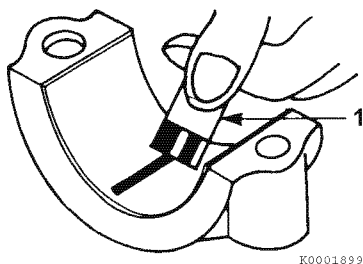

Figure 6-109
- 5- Compare the width of the flattened PLASTIGAGE to the graduation marks on the package (1, **Figure 6-109**). The mark that most closely matches the width of the flattened PLASTIGAGE will indicate the bearing oil clearance.